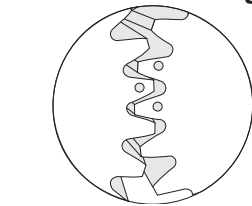
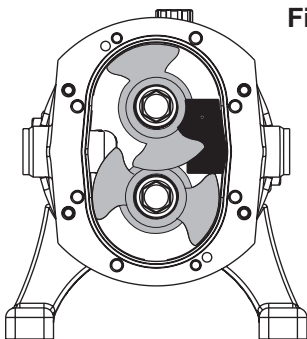
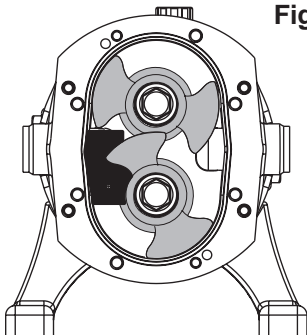

Fig. 10
Fig. 3
Fig. 11
1. Refit the timing gears (54) onto the shafts (38, 39). Check that the correct gear is fitted onto the correct shaft and correct positioning of the gears as per fig. 10.
2. Position rotors (35) as described in section 4.2.1.
3. Position rotor locking piece as shown in fig. 3.
4. Position washer (55) and gear nut (56) onto the drive shaft (38) and tighten the gear nut to the specified torque. See section 6.1.
5. Position rotor locking piece as shown in fig. 11.
6. Refit washer (55) and gear nut (56) onto the auxiliary shaft (39) and tighten the gear nut to the specified torque - see section 6.1.
7. Bend the locking tabs on the tab washers (55).